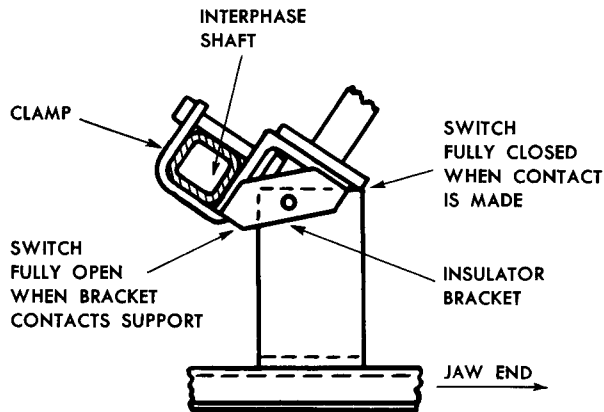

Fig. 3b. Attaching metal interphase shaft.
b. For metal: Place the INTERPHASE SHAFT against all three single-pole INSULATOR BRACKETS and bolt on, using clamps, as indicated in Fig. 3b.